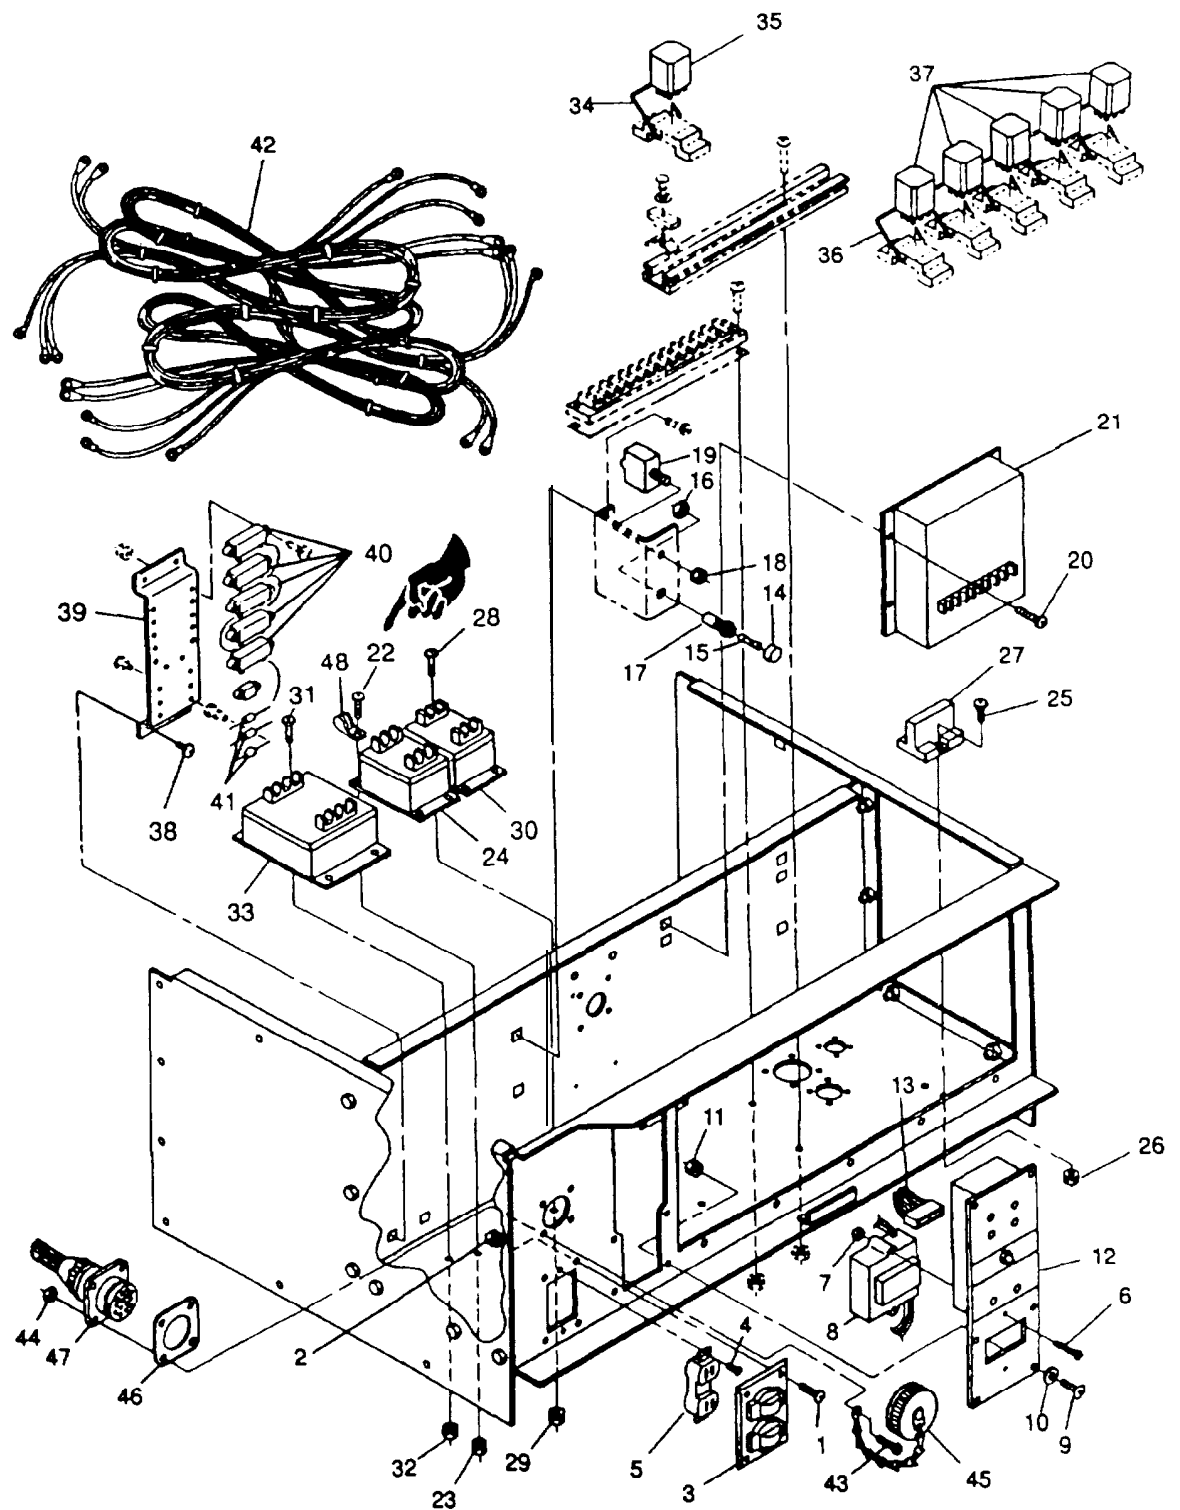

FIGURE 2-11. Control Box Components
- d. Tag and remove frequency transducer (24, FIGURE 2-11) electrical leads.
- e. Open load terminal board access door and remove screws (22), nuts (23), cable clamp (48), and frequency transducer (24).
- a. Install frequency transducer (24, FIGURE 2-11) with screws (22), and nuts (23)
- d. Tag and disconnect shunt (27, FIGURE 2-11) electrical leads.
- g. If no repair is needed, connect electrical leads to shunt (27) and remove tags
- e. Open storage box access door to gain access to remove screws (25), nuts (26), and shunt (27)
- a. Install shunt (27, FIGURE 2-11) with screws (25) and nuts (26)
- d. Tag and disconnect overvoltage relay (30, FIGURE 2-11) electrical leads.
- e. Open load terminal board access door to gain access to nuts (29) and remove screws (28), nuts (29), and overvoltage relay (30).
- a. Install overvoltage relay (30, FIGURE 2-11) with screws (28) and nuts (29).
- d. Tag and disconnect short circuit/overload relay (33, FIGURE 2-11) electrical leads.
- e. Open load terminal access door to gain access to nuts (32) and remove screws (31), nuts (32), and short circuit/overload relay (33).
- a. Install short circuit/overload relay (33, FIGURE 2-11) with screws (31) and nuts (32).
- c. Inspect crank disconnect switch (35, FIGURE 2-11) for cracks. Ensure that switch is seated properly.
- d. Release wire clip (34, FIGURE 2-11) and remove crank disconnect switch (35) by gently pulling straight up from socket.
- a. Install crank disconnect switch (35, FIGURE 2-11) and snap wire clip (34) over switch.
- d. Locate suspected defective relay (37, FIGURE 2-11). Release wire clip (36) and remove relay (37) by gently pulling upon relay.
- a. Install relay (37, FIGURE 2-11) and secure with wire clip (36).